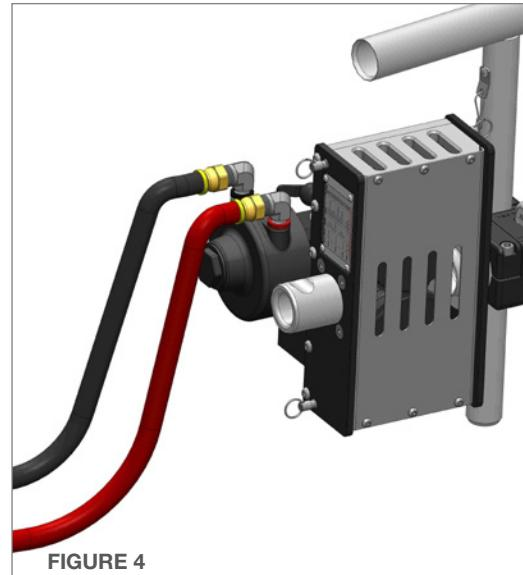

FIGURE 4
4. Push the back cover back into the closed position and secure the two Quick Release Pins on the top of the PRODRIVE®. (**Figure 4**)
4. Pull the Dust Caps off the Pneumatic Air Fittings. Connect the Pneumatic Supply Lines from the CB-ABX-PRO-100-X Control Box to the PRODRIVE®. Pay close attention to the color coded tabs on the air fittings of the Air Motor and the Control Box. Connect the red hose to the red banded air fittings and the black hose to the black banded air fittings. (**Figure 4 & 5**)